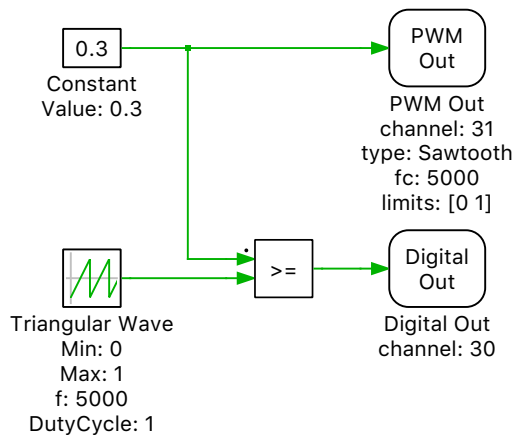

Figure 6: Comparing two different methods of generating a PWM signal
- 1** Add a PWM Out component to your model from the previous exercise. Connect the Constant representing the PWM duty to the PWM Out block. Change the carrier limits to [0,1], the carrier type to sawtooth, and assign the PWM Out to digital output channel 31. Refer to Figure 6 to see a representative schematic. Upload your model to the RT Box and connect via the External Mode.